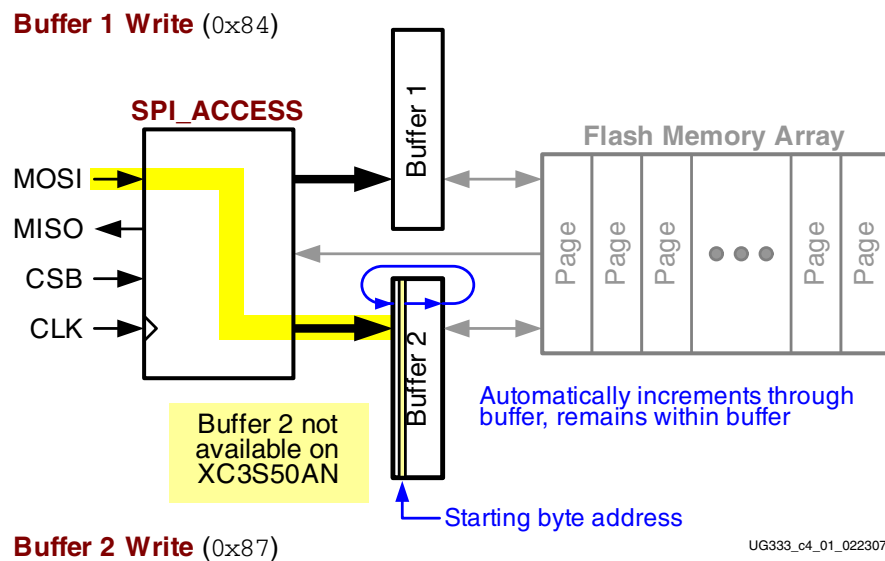

Figure 4-1: Buffer Write Command
- ♦ The starting byte location can be anywhere within the selected SRAM page buffer, as shown in Figure 4-1.
- ♦ While CSB is Low, present new data on the MOSI pin on every subsequent falling CLK edge. The ISF memory automatically increments the implied address counter through the SRAM page buffer, as highlighted in Figure 4-1.
This operation combines the Buffer Write (Figure 4-1) and Buffer to Page Program with Built-in Erase (Figure 4-2) operations. The FPGA application must specify a full 24-bit address, including both the Page Address and the starting Byte Address within the SRAM page buffer.
- ◆ The starting byte location can be anywhere within the selected SRAM page buffer, as shown in Figure 4-1.
- ◆ While CSB is Low, present new data on the MOSI pin on every subsequent falling CLK edge. The ISF memory automatically increments the implied address counter through the SRAM page buffer, as highlighted in Figure 4-1.